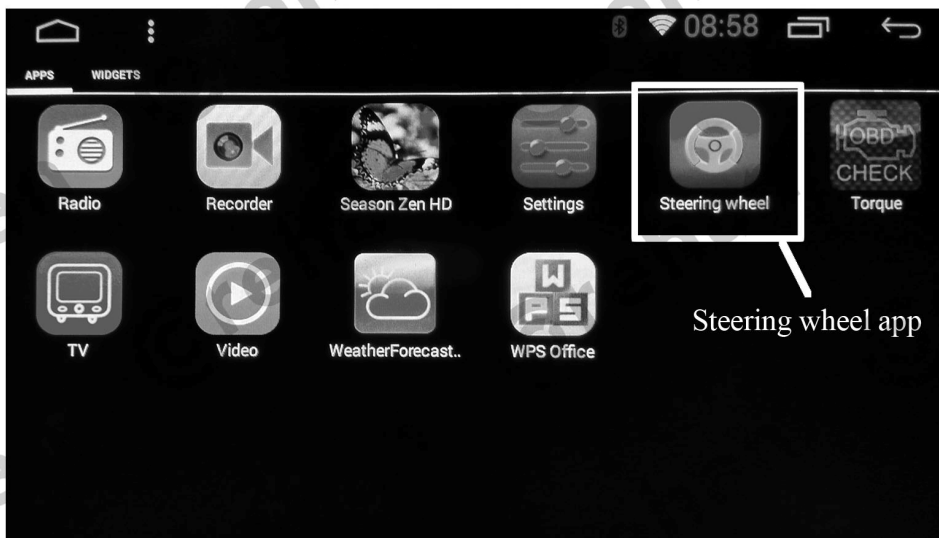

Fig.6
1. Power up the head unit, click into “Apps” on desk, find the app ”steering wheel ” (Fig.6)and open it(Fig.7).